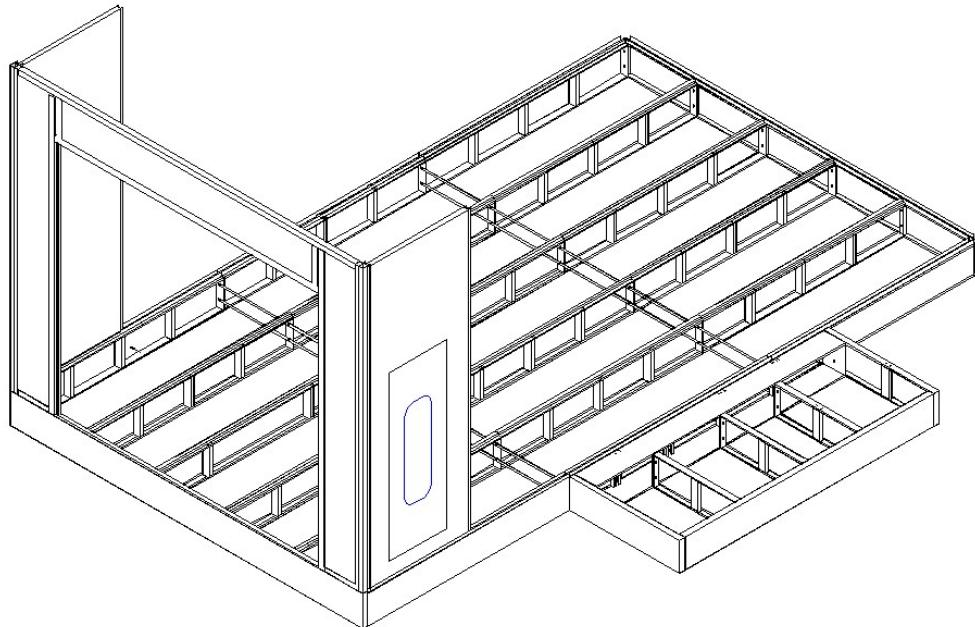

Fig. 3.7
3) Take the Front door frame on to the front panel of the basement by two workers, then one workers hold the door frame and another worker take the safe door and one wall panel on aother side, connect them to the door frame with nails. At last take four bolt M8\*20 to connect the bottom of the door frame and the front panel of the basement. shown in Fig.3.7. So the door frame can be stand steadily.